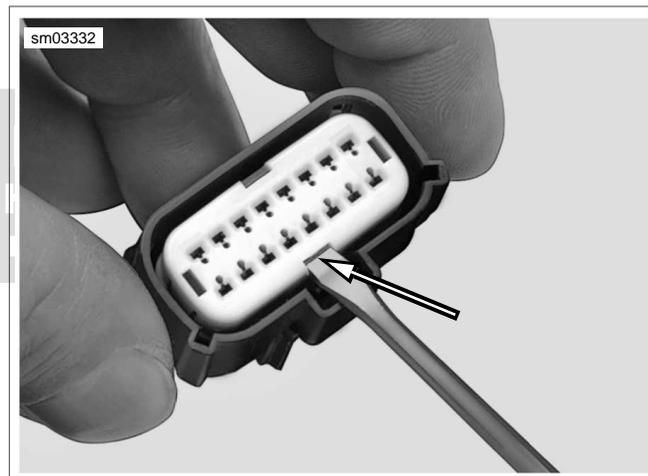

Figure A-28. Secondary Lock Pry Slot (Socket Housing)
- a. **Socket Housing:** See Figure A-28. Use a small screwdriver in the pry slot. The slot next to the external latch provides a pivot point.